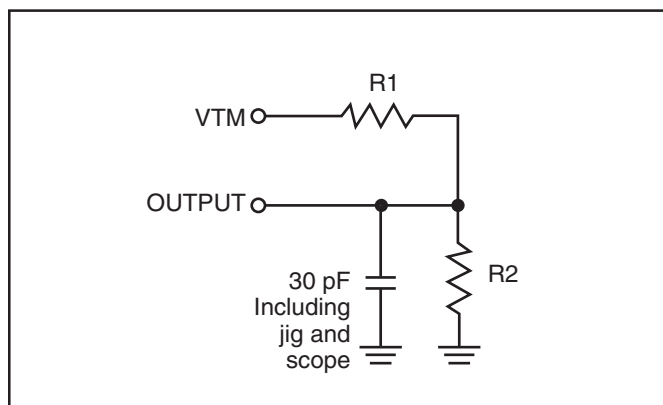

Figure 1
1. Test conditions assume signal transition times of 5 ns or less, timing reference levels of 0.9V/1.5V, input pulse levels of 0.4 to  $V_{DD}-0.2V/V_{DD}-0.3V$  and output loading specified in Figure 1.
1. Test conditions assume signal transition times of 5 ns or less, timing reference levels of 0.9V/1.5V, input pulse levels of 0.4V to  $V_{DD}-0.2V/V_{DD}-0.3V$  and output loading specified in Figure 1.